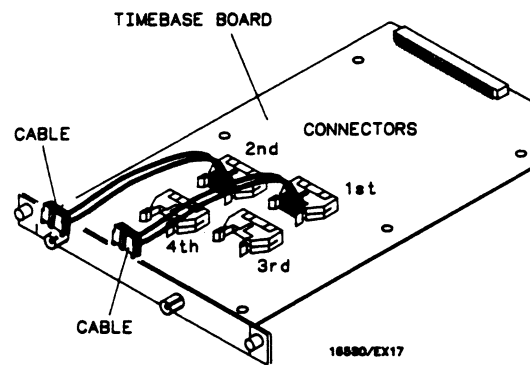

Figure 2-10. Cable Position
- h. Lay cable(s) flat and pointing out to rear of card. See figure 2-10.